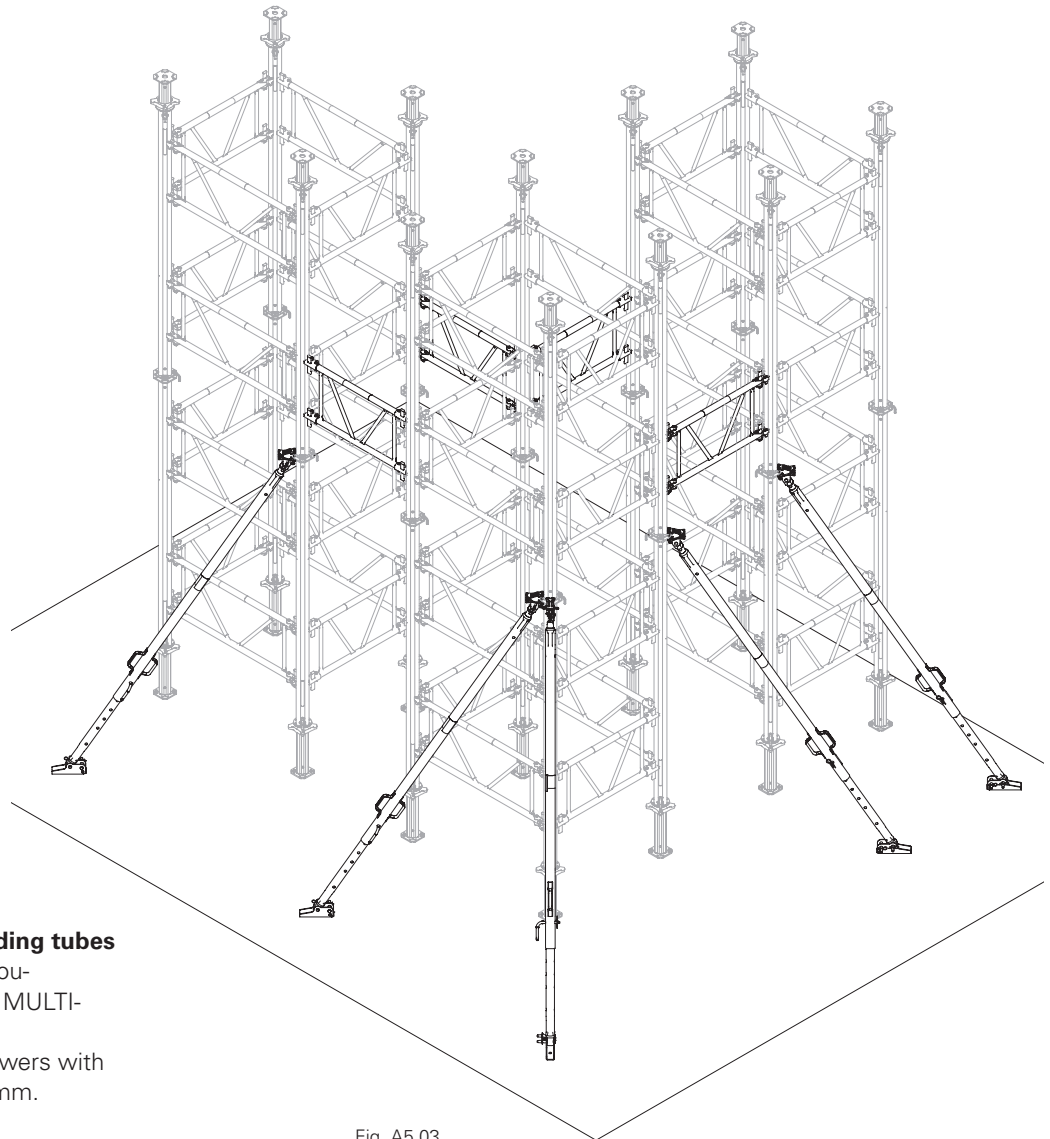

Fig. A5.03
2. Install Frames MP MRK between the towers. (Fig. A5.03)